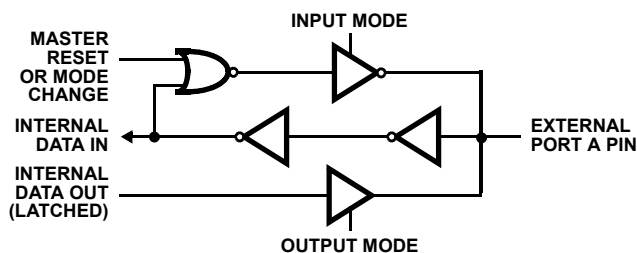

FIGURE 2A. PORT A BUS-HOLD CONFIGURATION
**Port A** One 8-bit data output latch/buffer and one 8-bit data input latch. Both “pull-up” and “pull-down” bus-hold devices are present on Port A. See Figure 2A.